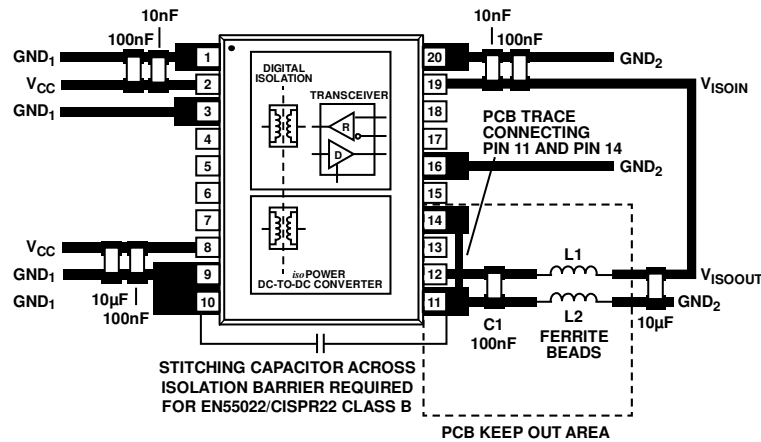

Figure 35. Recommended PCB Layout
The ADM2582E/ADM2587E isolated RS-422/RS-485 transceiver contains an *isoPower* integrated dc-to-dc converter, requiring no external interface circuitry for the logic interfaces. Power supply bypassing is required at the input and output supply pins (see Figure 35). The power supply section of the ADM2582E/ADM2587E uses a 180 MHz oscillator frequency to pass power efficiently through its chip-scale transformers. In addition, the normal operation of the data section of the *iCoupler* introduces switching transients on the power supply pins.
The ADM2582E/ADM2587E features an internal split paddle, lead frame on the bus side. For the best noise suppression, filter both the GND2 pins (Pin 11 and Pin 14) and VISOOUT signals of the integrated dc-to-dc converter for high frequency currents. Use surface-mount ferrite beads in series with the signals before routing back to the device. See Figure 35 for the recommended PCB layout. The impedance of the ferrite bead is chosen to be about 2 kΩ between the 100 MHz and 1 GHz frequency range to reduce the emissions at the 180 MHz primary switching
- Do not connect the VISOOUT pin to a power plane; connect between VISOOUT and VISOIN using a PCB trace. Ensure that VISOIN (Pin 19) connects through the L1 ferrite to VISOOUT (Pin 12), as shown in Figure 35.
- Ensure that GND2 (Pin 16) is connected to GND2 (Pin 11) on the outside (bus side) of the L2 ferrite, as shown in Figure 35.
The ADM2582E/ADM2587E dissipate approximately 650 mW of power when fully loaded. Because it is not possible to apply a heat sink to an isolation device, the devices primarily depend on heat dissipation into the PCB through the GND pins. If the devices are used at high ambient temperatures, provide a thermal path from the GND pins to the PCB ground plane. The board layout in Figure 35 shows enlarged pads for Pin 1, Pin 3, Pin 9, Pin 10, Pin 11, Pin 14, Pin 16, and Pin 20. Implement multiple vias from the pad to the ground plane to reduce the temperature inside the chip significantly. The dimensions of the expanded pads are at the discretion of the designer and dependent on the available board space.